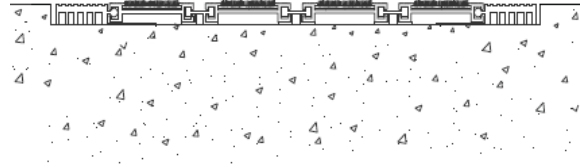

Figure 3
**STEP 5.** After the mat has relaxed, place the mat into its installed position (see Figure 3). Ensure that the mat is level, plumb, flush, flat and properly oriented. If the mat is provided in sections, place each mat section into its installed position, splicing mating sections of the mat together. Ensure that the mat sections are level, plumb, flush, flat, properly oriented and properly aligned and that each mat section is in the position established for it and illustrated in the details. The mat sections are assigned a letter designation, which is marked on the mat sections, to ensure proper placement.